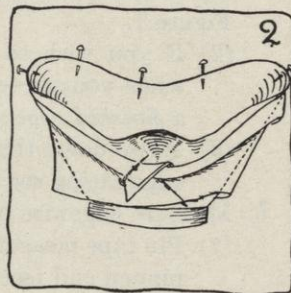

FIG. 2.
- a.* Pin the two ends of the bias strip together in a seam so that the raw edges of the seam will be next to the brim. To do this, you may have to bend the brim a little out of shape (see Figure 2). The bias strip should now fit the brim tightly.